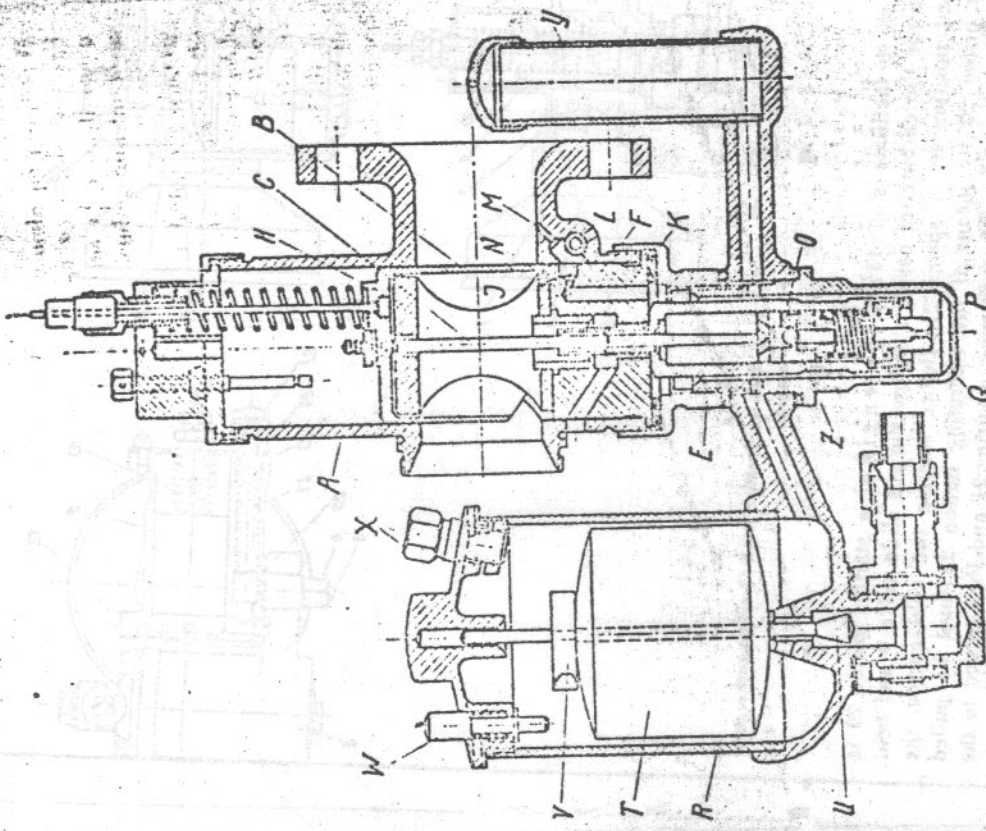
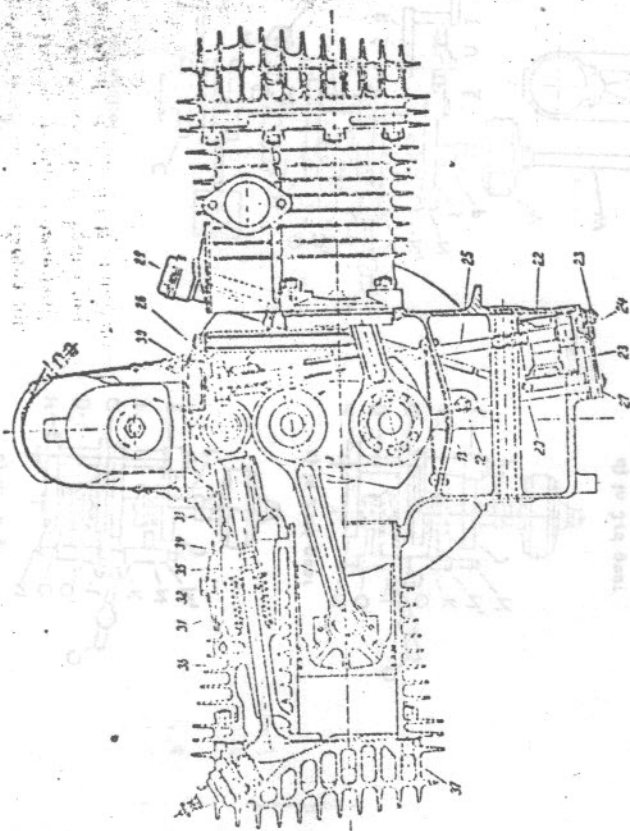

Fig. 15 Carburettor of the two-carburettor touring machine
Fig. 20 Touring engine with partial cross section through the middle of the cylinder
c) Float chamber: The float chamber must be cleaned with petrol after about every 2000-2500 miles. At the same time the needle valve should be checked. For this purpose the cover of the floatchamber must be taken off. With the carburettors of the R 12 two-carburettor machine the clamping screw X (fig. 15) must be unscrewed first to be able to screw off the cover. Then the clamp spring V on the carburettor valve needle U
must be removed whereupon after removal of the connecting piece of the petrol piping at the bottom, the float chamber may be taken out downwards. (fig. 15.)
a) Valves of the R 12 model (fig. 20). The valves are completely enclosed, located at the side of the cylinder and are operated from the camshaft 1 by enclosed tappets 33. Any oil that might leak out at the tappets is conducted back into the casing through a return flow bore, so that any escape of oil outside the engine is made impossible. Through a detachable protective cover the ends of the valve stem and the tappets are easily accessible for the purpose of adjustment of the valve clearance.
A rotary geared pump (fig. 20) built in the lower part of the crankcase sucks the oil through a filter 22 by the action of the two gear wheels 23 and 24, the latter of which is driven by means of a shaft 25 and worm wheel 26 by the worm on the camshaft 1.
Part of the oil is conducted by the oil pump into the oil filter 17 through rising pipe 20 (fig. 20), oil distributing pipe 12, and oil jet 21 (fig. 15) and leaves it completely purified to be conducted back to the oil pump through the oil well.
With the carburettors of the R 12 and R 17 two-carburettor machine a tickler W is arranged in the cover of the float chamber which on pressing down keeps the float valve U open and thus shows whether there is a proper flow. When kick-starting the engine, more fuel is supplied to the jets by operating the tickler W which considerably facilitates starting (fig. 15 and 16). Regarding the maintenance of the carburettors see page 20.